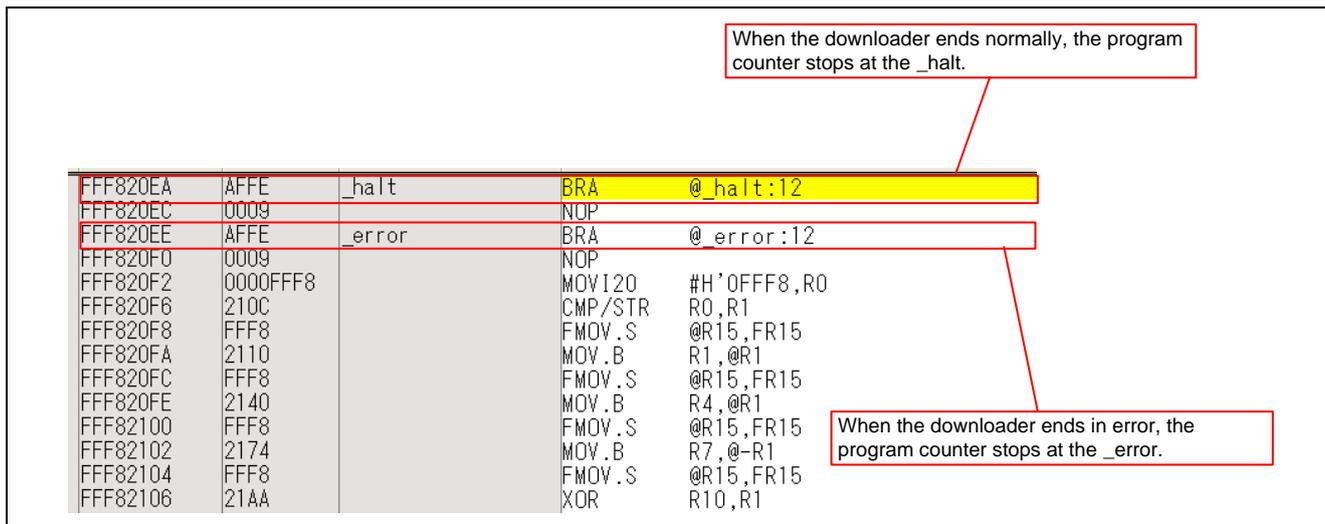

Figure 18 High-performance Embedded Workshop Window When the Downloader Ends
- When the batch file [downloader.hdc] is executed, all of the download modules registered in the workspace (loader program, application program, and downloader) are transferred to RAM to execute the downloader. As show in Figure 18, the program counter stops at the _halt when the downloader ends normally. The program counter stops at the _error when the downloader ends in an error. A source file may appear when the [sh7267_sflash_downloader] workspace directory is copied in C:\Workspace.